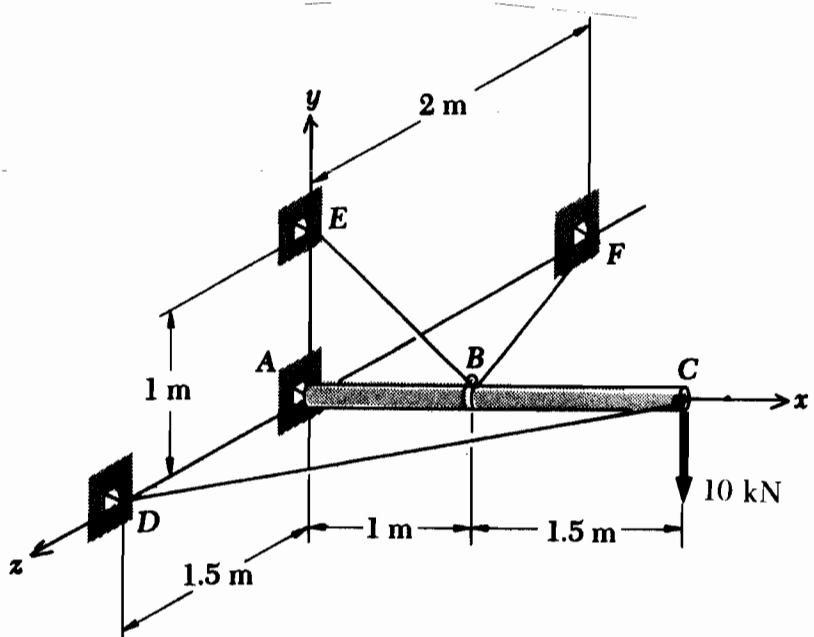

Fig. P2
- 2- As shown in Fig. P2, a 2.5-m boom is held by a ball-and-socket at  $A$  and by two cables  $EBF$  and  $DC$ ; the cable  $EBF$  passes around a frictionless pulley at  $B$ . Determine the tension in each cable. [Secs. 5.5 – 5.7] (20 pts.)